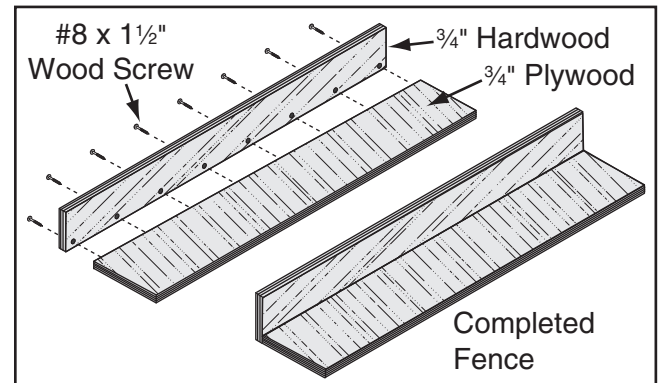

Figure 85. Location of pilot holes.
2. Pre-drill and countersink eight pilot holes $\frac{3}{8}$ " from the bottom of the 3" wide board, then secure the boards together with eight #8 x $1\frac{1}{2}$ " wood screws, as shown in **Figure 85**.